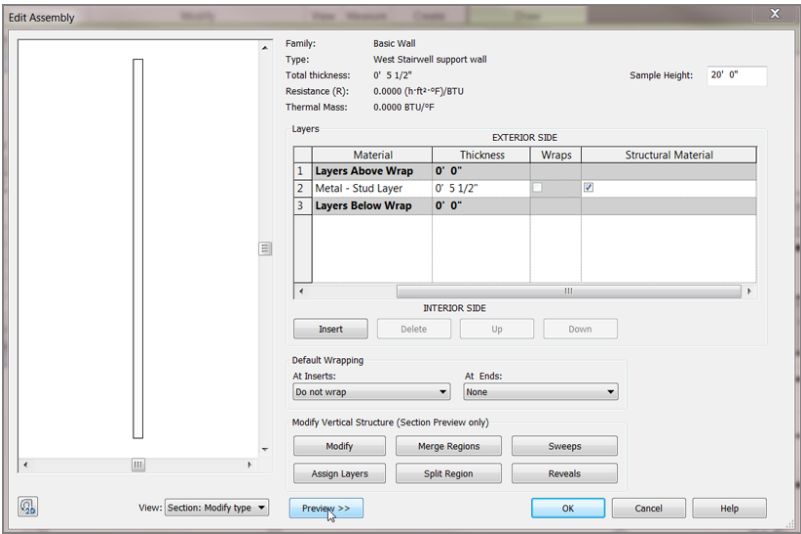

FIGURE 16.2: Changing the view to a section
12. At the bottom of the Edit Assembly dialog box, click the Preview button (see Figure 16.2).